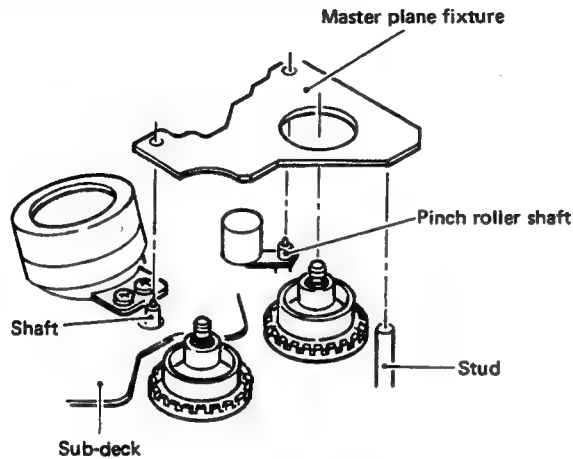

Fig. 2-22 Master plane fixture
2. As shown in Fig. 2-22, set the master plane fixture with the two shafts and stud as references.